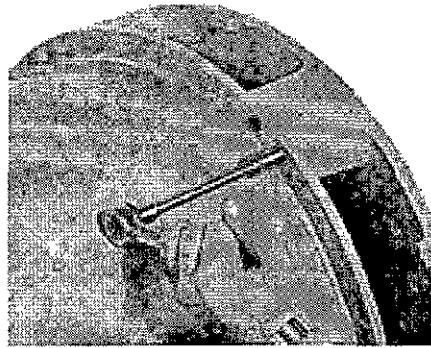
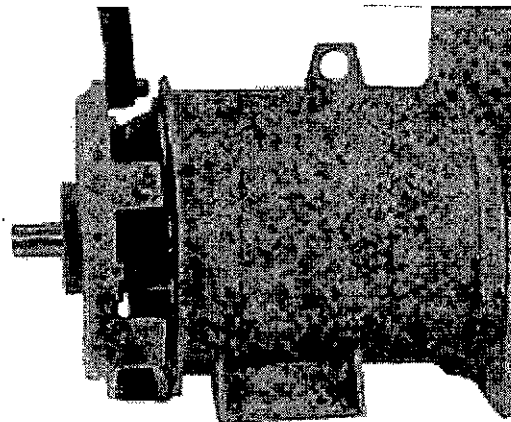

Figure 6-26
Figure 6-28
5. For single bearing generators, remove the cap screws holding the SAE adapter to the generator and remove the adapter. (Figure 6-26 and 6-27.)
For two bearing generators remove the cap screws holding the drive end bracket to the generator and remove the bracket (Figures 6-26 and figure 6-28)